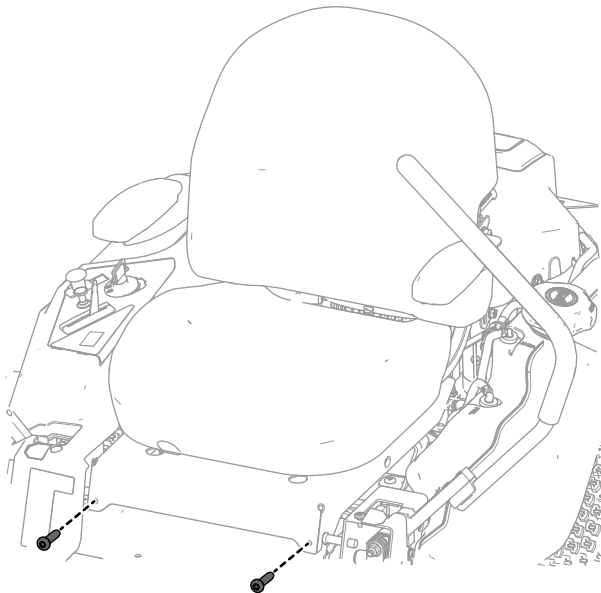

Figure 5
1. Secure the seat-base assembly onto the pivot rod with the 2 bolts previously removed (Figure 5).